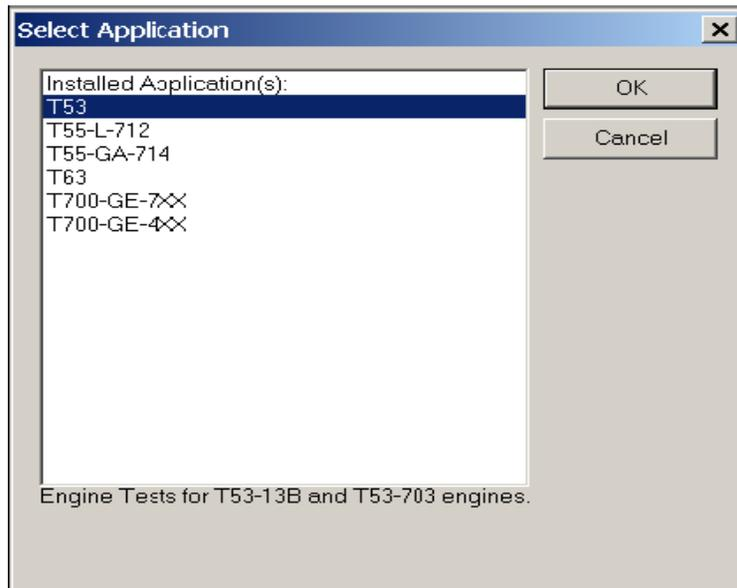

Figure 5. Select Application Choice Box
- (6) Enter an operator name or initials. This entry is required.
- (7) Enter the password and click OK. The Select Application screen, similar to Figure 5, will appear.